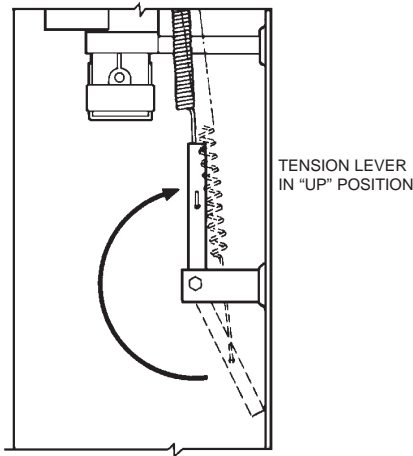

FIGURE 8-18
- 23. Raise the tension lever to "UP" position. See Figure 8-18.